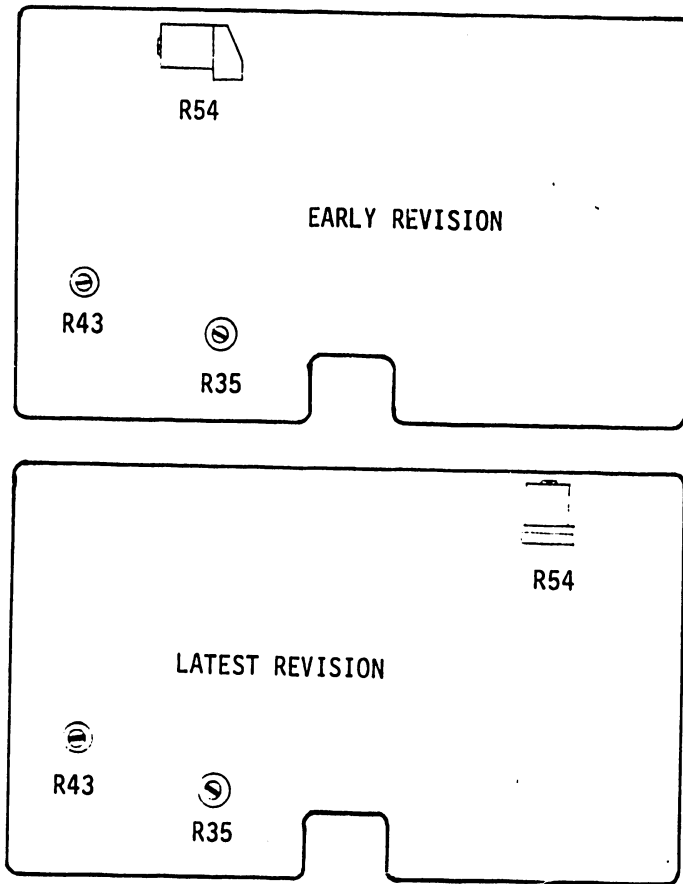

FIGURE 32
- 2) Adjust +5VR by varying R43. See Figure 32.